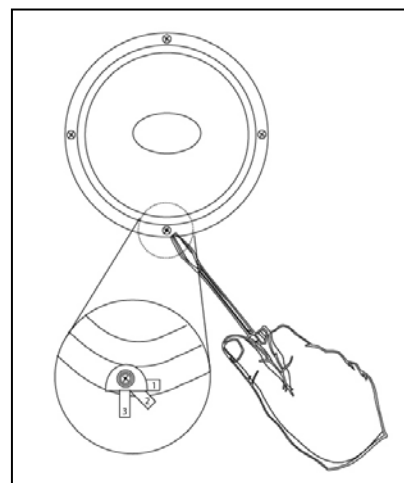

Figure 5
3. Use one hand to push the speaker into the cut out (again, pay careful attention **not** to push on the woofer's cone, this can cause permanent contortion of the voice coil, thus producing mechanical rubbing sound or speaker failure) and the other to turn the screws that engage the installation tabs (see **Figure 5**). Tighten the tabs in a cross or X-pattern until "snug". Be careful not to over tighten the tabs or damage could result. The speaker should appear flush to the surface.